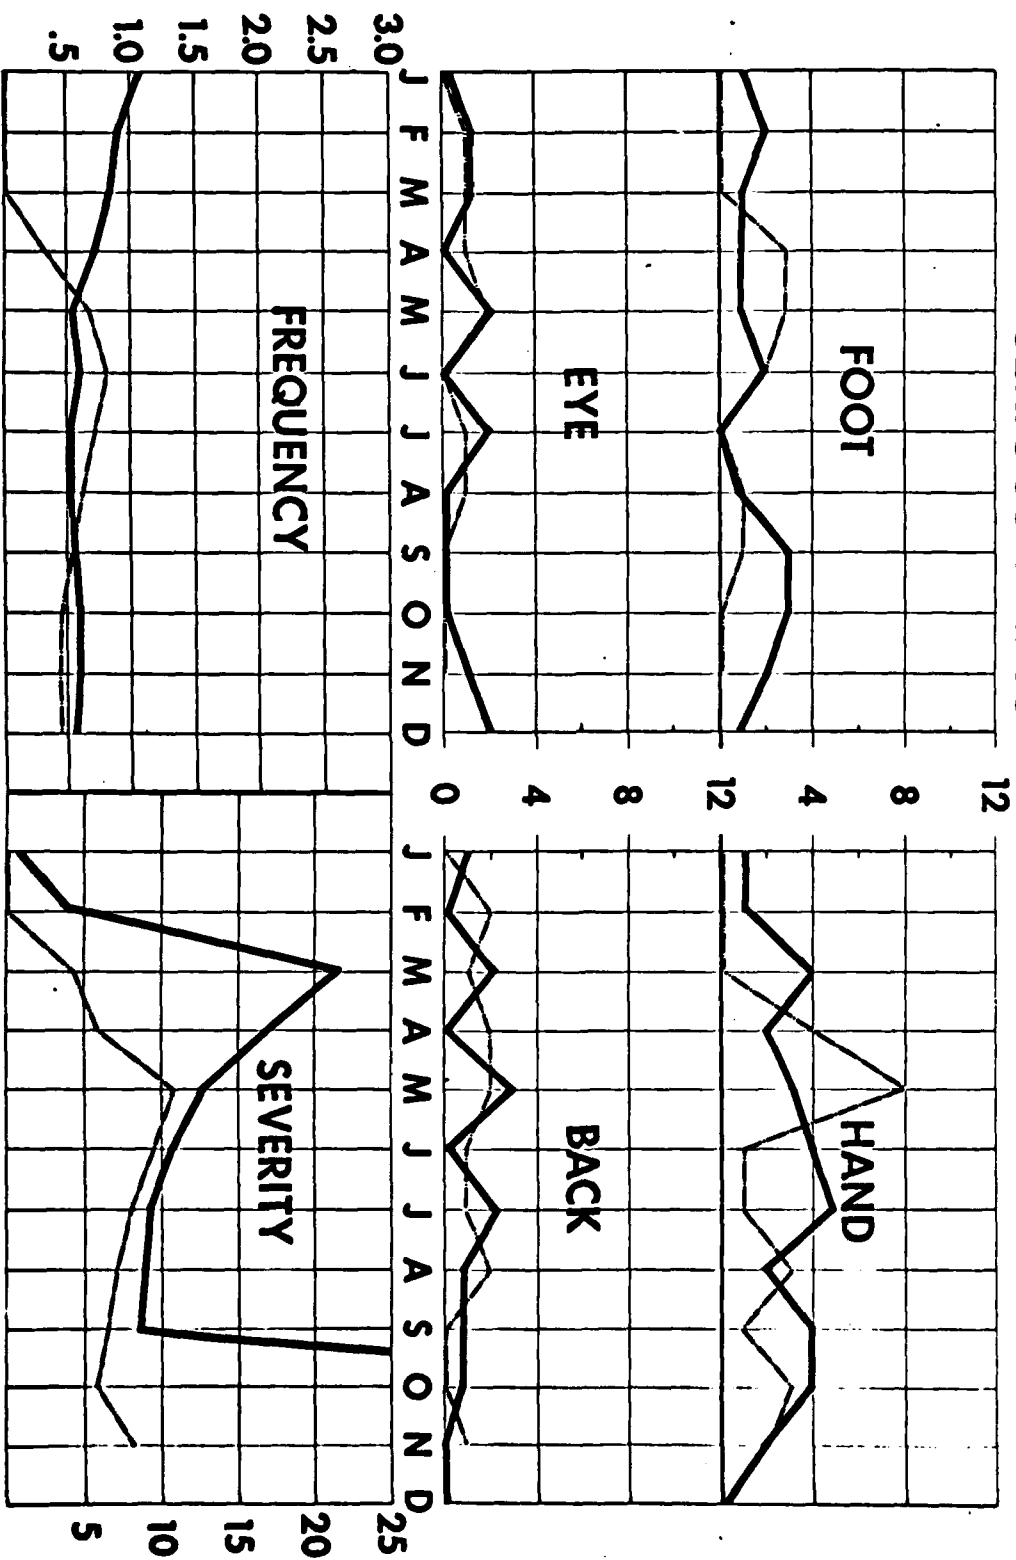

Figure 6
8. Serious Medical Case Chart (Figure 6) - Maintained by the